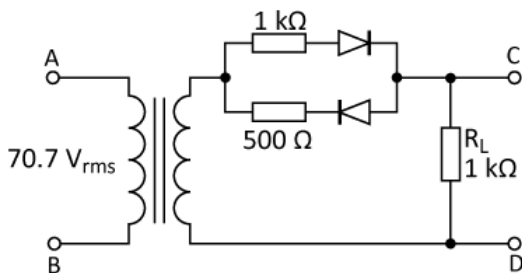

Fig. E4-2
2. In the circuit of Fig. E4-2 below, the supply applied to terminals A-B is shown to be $70.7 \text{ V}_{\text{rms}}$. Sketch the waveform appearing at the output terminals C-D showing the peak values of voltage on each cycle. Assume the diodes are ideal.